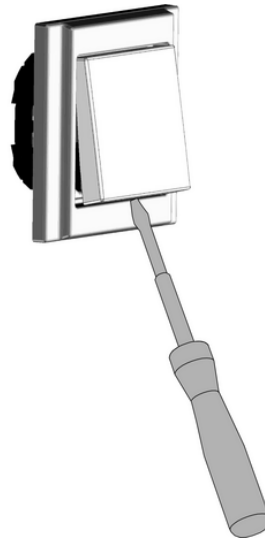

Figure 4: Remove cover
- Insert screwdriver in slot on the bottom (figure 4) and raise cover (4) carefully.
- ❗ Do not damage cover (4) and design frame (2).
- Slacken screw (6).
- Remove electronics cover (3) from insert.